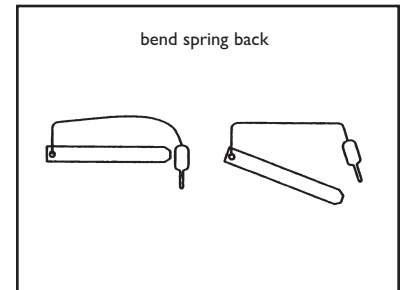

FIGURE 13
5.) If the Slider Pin spring becomes loose or bent, slightly bend back into position. (See Figure 13)